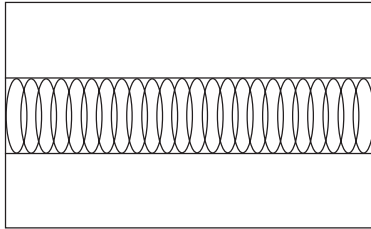

Fig.6
3. Adjust T101 to obtain the waveform Fig.6.